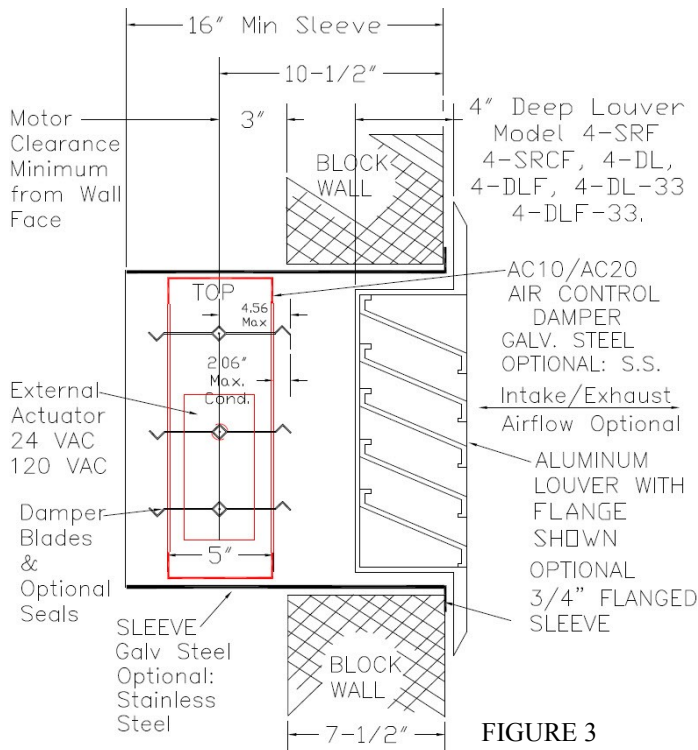

FIGURE 3
**FIGURE 3 ILLUSTRATES THE COMBINATION OF LOUVER/ AIR CONTROL DAMPER/ SLEEVE/ MOTOR FOR 4" DEEP 4-SRF & 4-SRCF, 4-DL, 4-DLF LOUVERS FOR INSTALLATION INTO 7-1/2" BLOCK WALLS